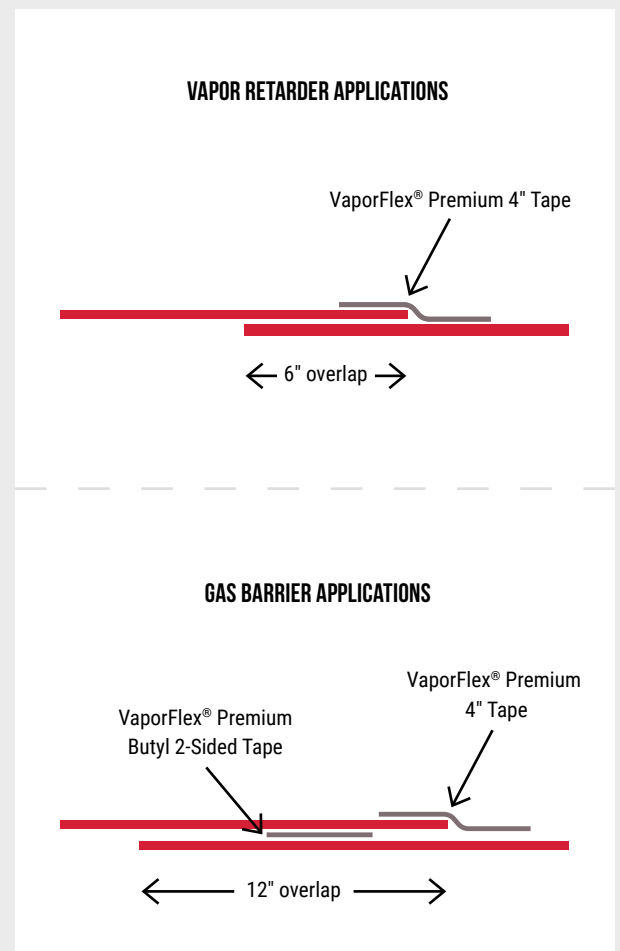

Figure 2:
3. Lap VaporFlex® Premium over or up the footings and seal with VaporFlex® Premium Butyl 2-Sided Tape. Concrete surfaces should be clean and dry prior to applying VaporFlex® Premium Butyl 2-Sided Tape. Apply even and firm pressure with a rubber roller. Overlap joints a minimum of 6" and seal overlap with 4" VaporFlex® Premium Tape. When used as a gas barrier, overlap joints a minimum of 12" and seal in-between overlap with VaporFlex® Premium Butyl 2-Sided Tape, 4" VaporFlex® Premium Tape centered on the overlap seam. (Fig. 2)